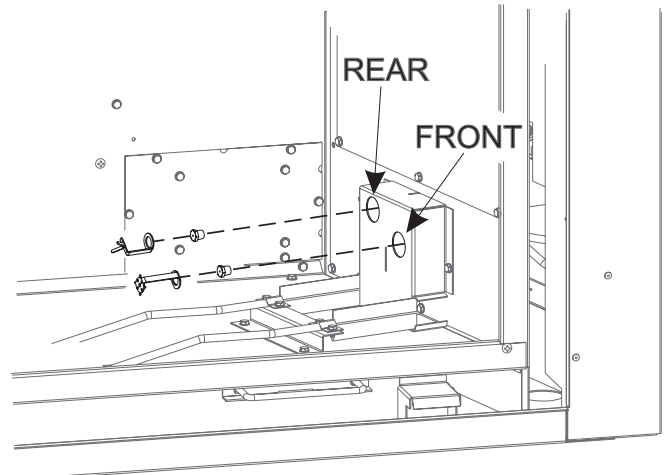

Figure 6
7. Locate the orifice marked "2.45." Use a 7/16 inch deep socket set to install orifice marked "2.45" onto rear orifice holder. Use needle-nose pliers, screw rear target onto rear orifice holder. (Figure 6)
8. Locate the orifice marked "2.45." Use a 7/16 inch deep socket set to install orifice marked "2.45" onto front orifice holder. Use needle-nose pliers to screw front target onto orifice holder. (Figure 6)